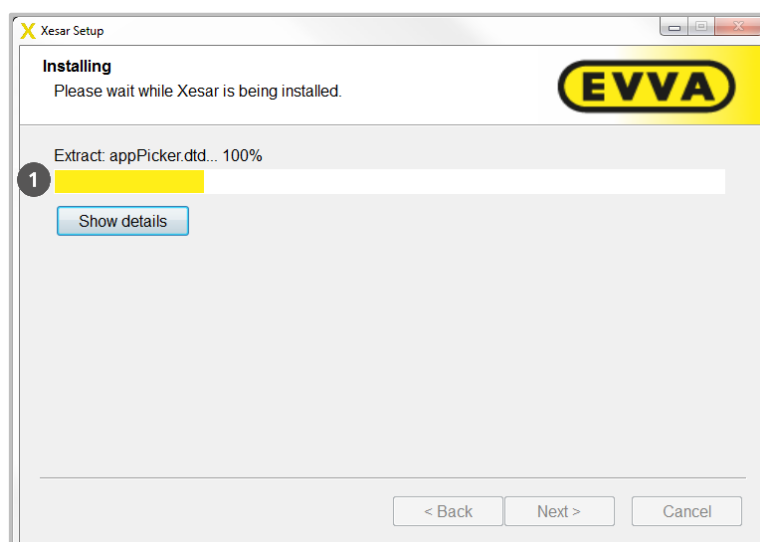

Figure 37: Xesar installation
Now the system installs the Xesar software, the progress bar indicates the current activity ❶ (Figure 37: Xesar installation).